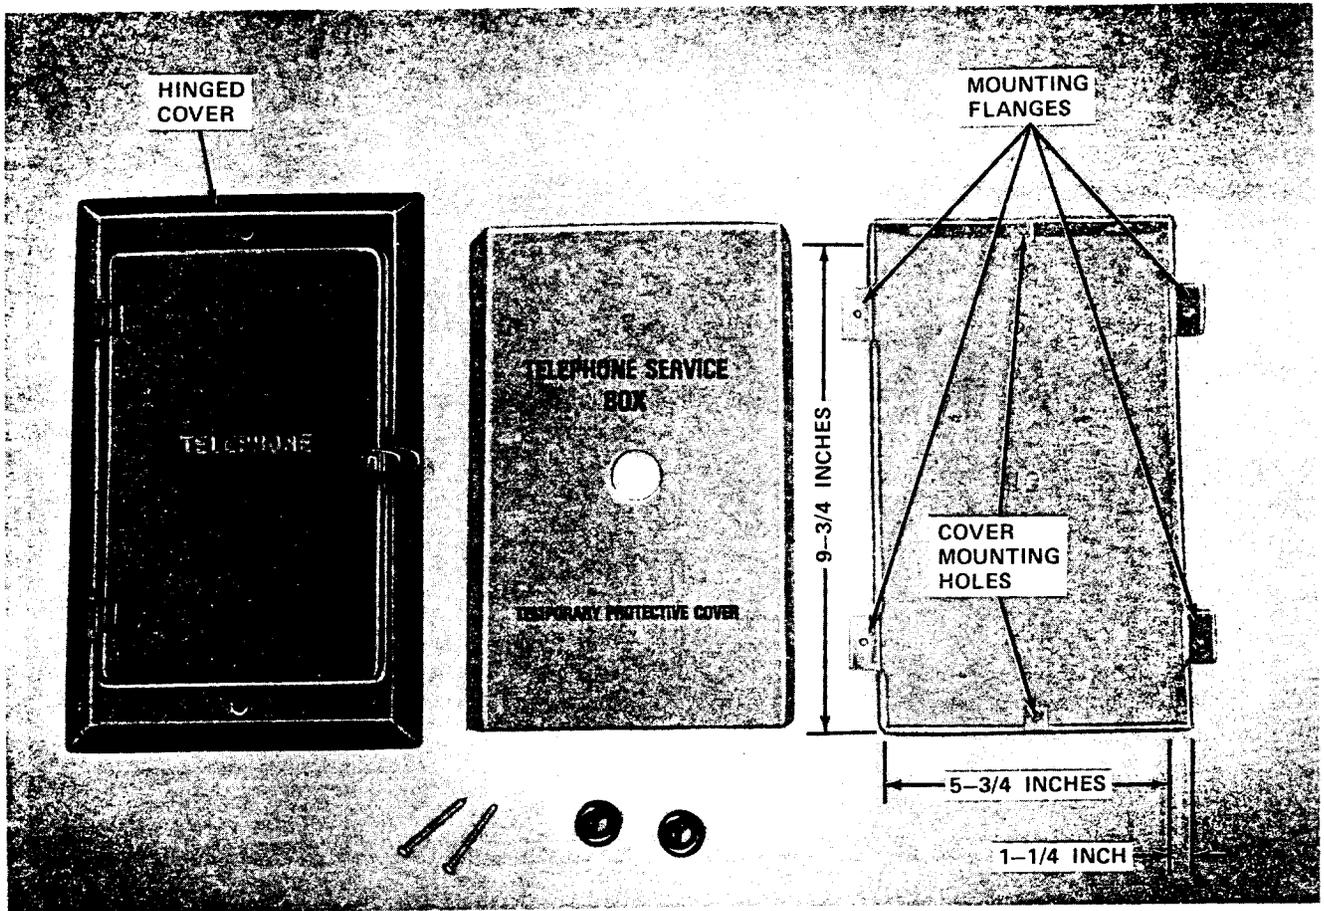

Fig. 7—810B Station Service Box
**C. 810B Station Service Box (Fig. 7)**